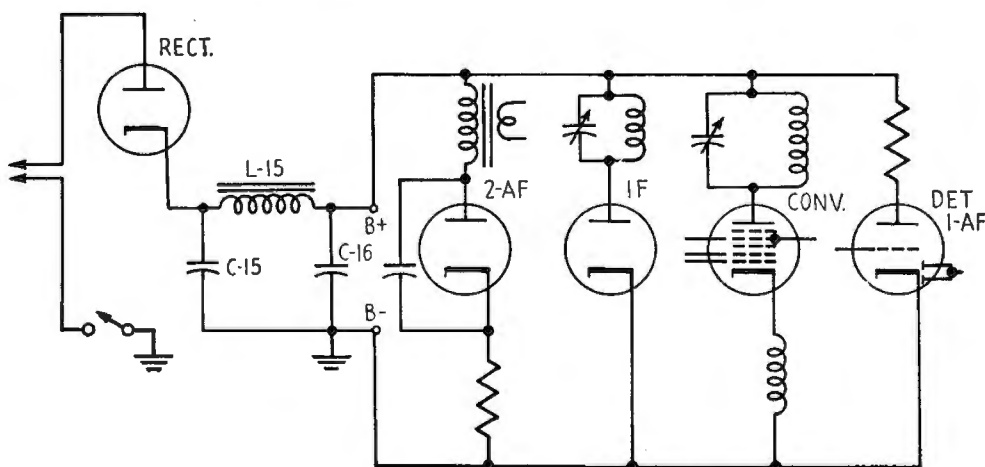

FIG. 18-24.—Skeleton B circuit of a typical AC/DC receiver.
mer shorting to its shielding—Fig. 18-24 shows a complete *B* circuit of a typical receiver, for analysis of the likely locations of the short.
12. In the *B* circuit breakdown of Fig. 18-24, assume that an ohmmeter check from common negative to *B* plus gives a reading of 40 ohms. List some of the likely locations of the short. Outline a procedure that could be used in tracking down the short.